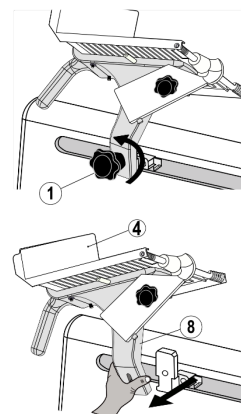

FIG 7. CARRIAGE TRAY DISASSEMBLING
1. Hold the handgrip (15) and turn the handgrip knob (14) counterclockwise to remove them. (See figure 7).
2. Inspect the contact area between the carriage support (8) and the carriage (4) plate, and the grip (15) with the serrated sheets. **Mating surfaces of joined components shall be with no hollow spaces between the joined surfaces. Also gasket shall not be broken, missing or unattached.**
3. Clean completely and remove all food debris specially from the carriage sliding bar and grip (15). Apply FDA approved mineral oil in all surface of sliding bar after clean (ask to your authorized dealer).